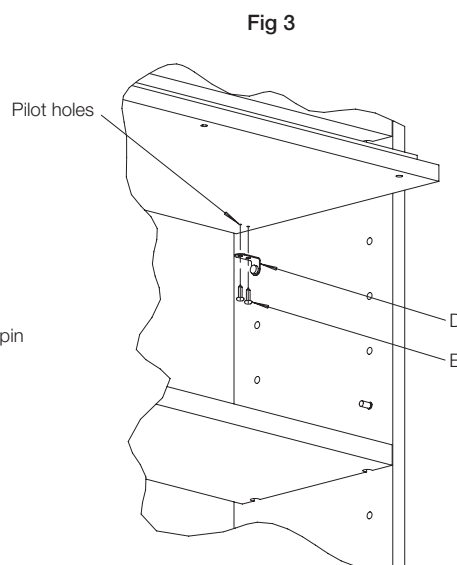

Fig 3
1.5. Complete the assembly using the pre-drilled holes located on the bottom, back corners of the shelf to the hinge (D) using fastener (E), 2 places at both ends. (Fig. 3)